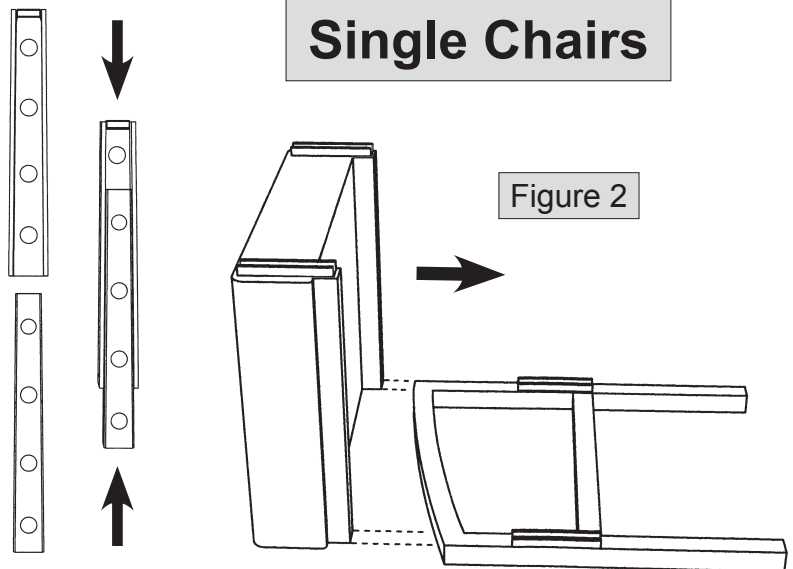

Figure 1
2. This chair is held together by use of **interlocking wedge hardware**, as shown in figure 1.
2. These chairs are held together by use of **interlocking wedge** hardware, as shown in figure 1 on opposite side of this sheet.